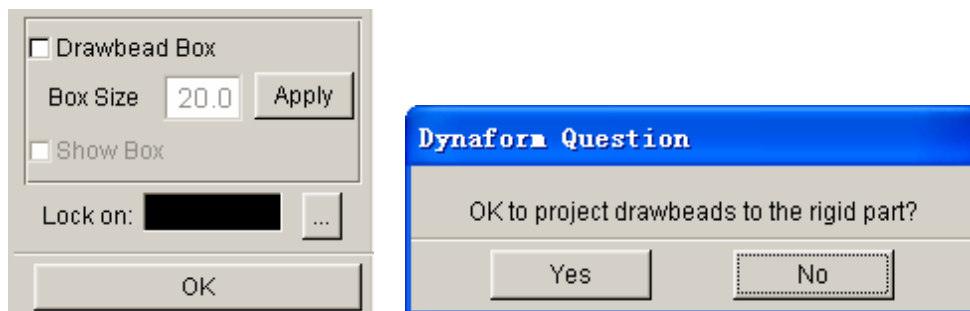

Figure 7.36 Lock the drawbead
21. The eta/DYNAFORM Question dialog box illustrated in Figure 7.36 is displayed. Select **Yes** to accept the projection.